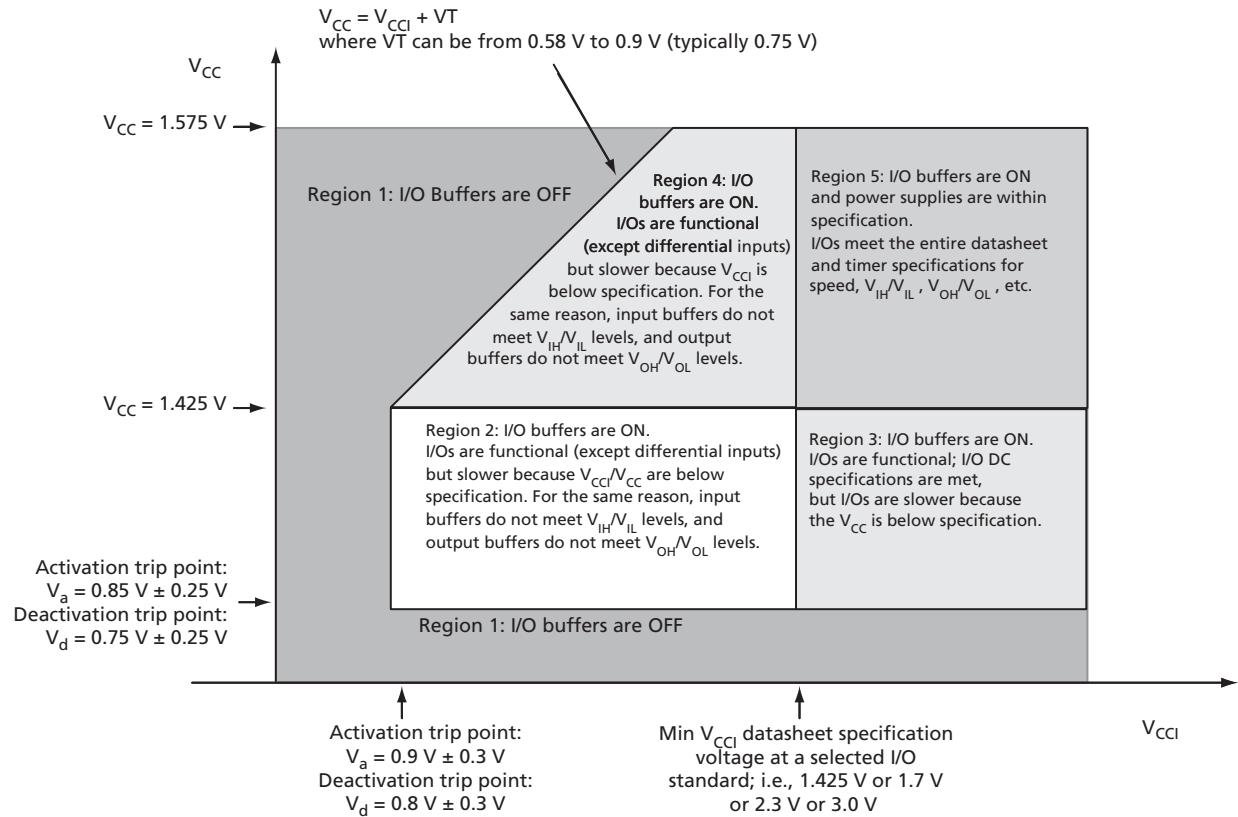

Figure 2-2 • I/O State as a Function of  $V_{CCI}$  and  $V_{CC}$  Voltage Levels
Sophisticated power-up management circuitry is designed into every ProASIC®3 device. These circuits ensure easy transition from the powered-off state to the powered-up state of the device. The many different supplies can power up in any sequence with minimized current spikes or surges. In addition, the I/O will be in a known state through the power-up sequence. The basic principle is shown in Figure 2-2 on page 2-4.
1.  $V_{CC}$  and  $V_{CCI}$  are above the minimum specified trip points (Figure 2-2 on page 2-4).